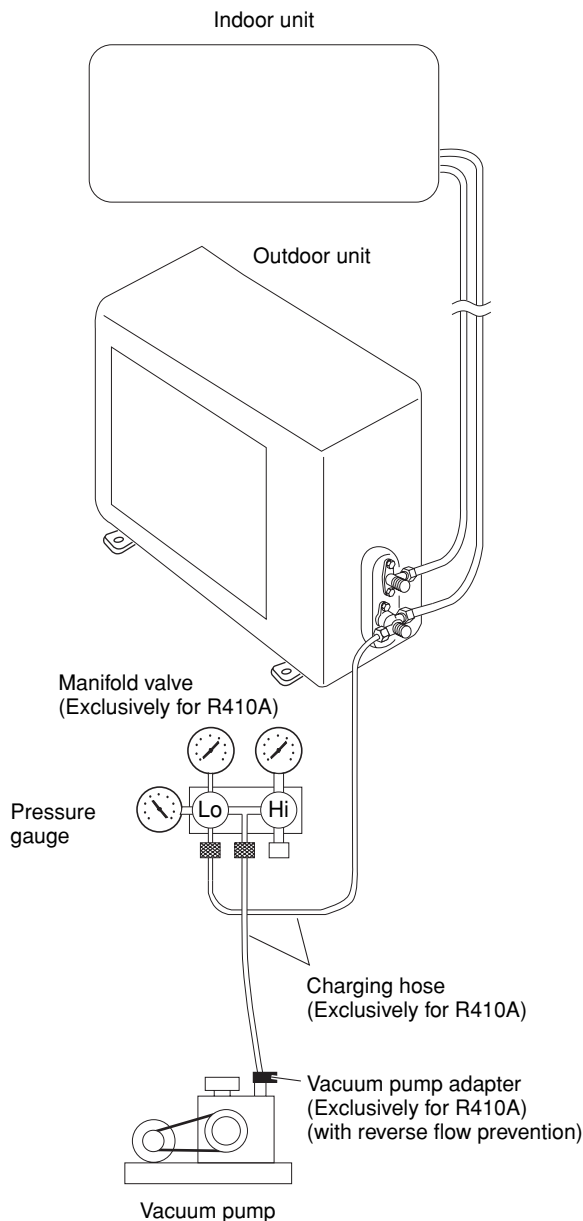

Fig. 57
- (1) Check that each tube (both narrow and wide tubes) between the indoor and outdoor units have been properly connected and all wiring for the test run has been completed. Note that both narrow and wide tube service valves on the outdoor unit are kept closed at this stage.
- (2) Using an adjustable wrench or box wrench, remove the valve caps from the service valve on both narrow and wide tubes.
- (3) Connect a vacuum pump and a manifold valve (with pressure gauges) to the service port on the wide tube service valve. (Fig. 57)